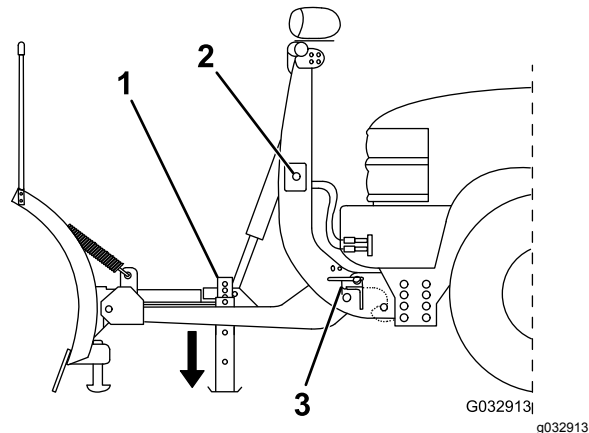

Figure 36
3. Pull the kickstand spring pin outward and lower the kickstand, then release the spring pin to secure it (Figure 36).